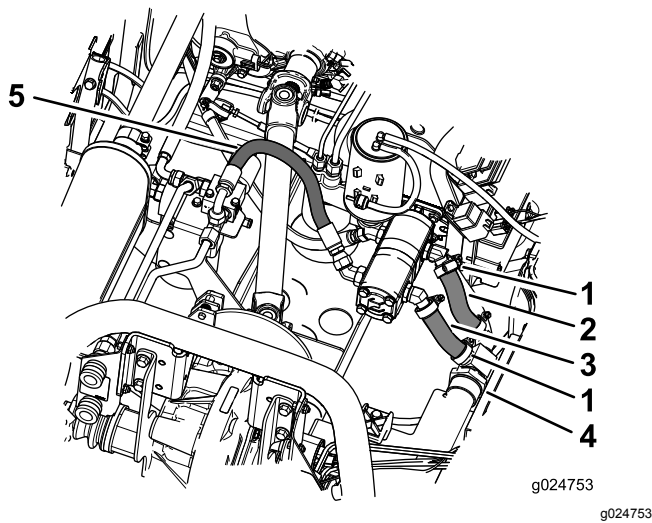

Figure 12
4. Install the hydraulic hose and the hoses by rotating the large tee fitting and 90° fitting into the ends of the hoses. Rotating the fittings allows the hoses to be installed easier. Refer to Figure 12.
5. Secure the hoses with hose clamps (Figure 12).